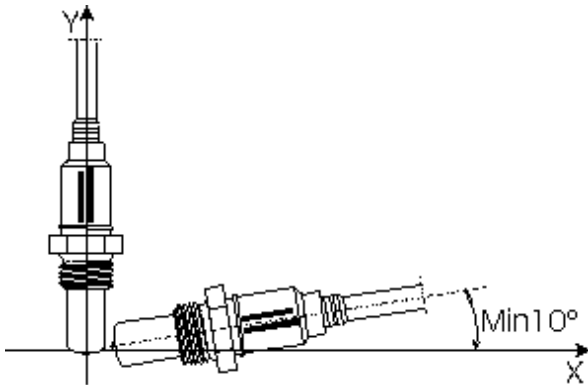

Fig.3
4.1 Installation of the sensor, Fig.3
The sensor must be installed at minimum 10° relative to the horizontal -- best vertical mounting, to avoid any likely water accumulation within the sensor, Fig. 3.